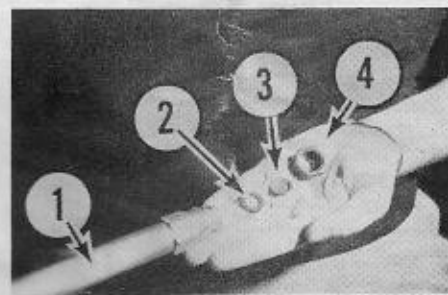

Figure 8
**USING THE SPRAY GUN.** The large Handle on the Gun controls the shape of the spray pattern, either a cone-shaped or a jet-shaped spray. Adjust to suit your job requirement. See Figure 8 for parts of the Gun: 1. Gun; 2. Rubber Washer; 3. Disc; 4. Nozzle Cap.